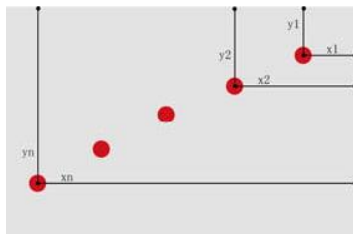

Figure 3.1 Schematic diagram of measuring points
1. Determine the test location: After surveying the test site, determine the location of the test points and agree on the test sequence (as shown in Figure 3.1).